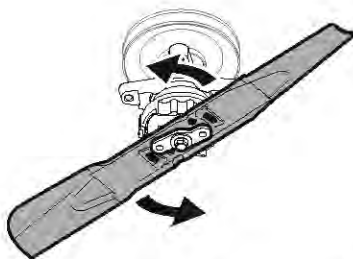

Figure 46
4. While holding the collar in the upward position, rotate the blade counterclockwise to free it from the collar. See Figure 46.